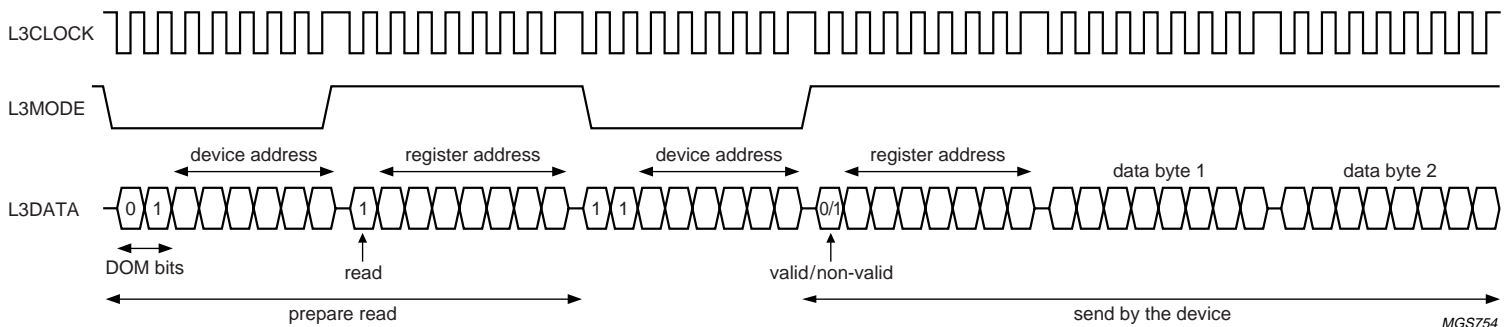

Fig.8 Data read mode.
2. Addressing for prepare read: bit 0 is logic 1 indicating that data will be read from the register (see Fig.8)
For reading data from the device, first a prepare read must be done and then data read. The data read mode is explained in the signal diagram of Fig.8.